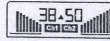

Fig. 3
- Using the INTENSITY SETTING buttons, select the desired impulse intensity. The impulse intensity display is adjusted accordingly (Fig. 3). The impulse intensity of **Ch1** and **Ch2** can be set individually.